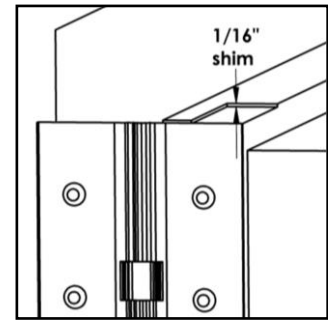

Fig. 1
1. With the hinge open, place the hinge frame leaf against the frame rabbet making certain that the alignment rib is flush against the frame face along its entire length. Position the top of the hinge  $1/16"$  ( $1/8"$  maximum) below the header. **Note: A  $1/16"$  shim is recommended due to initial settling of the bearings.** (See Fig. 1)